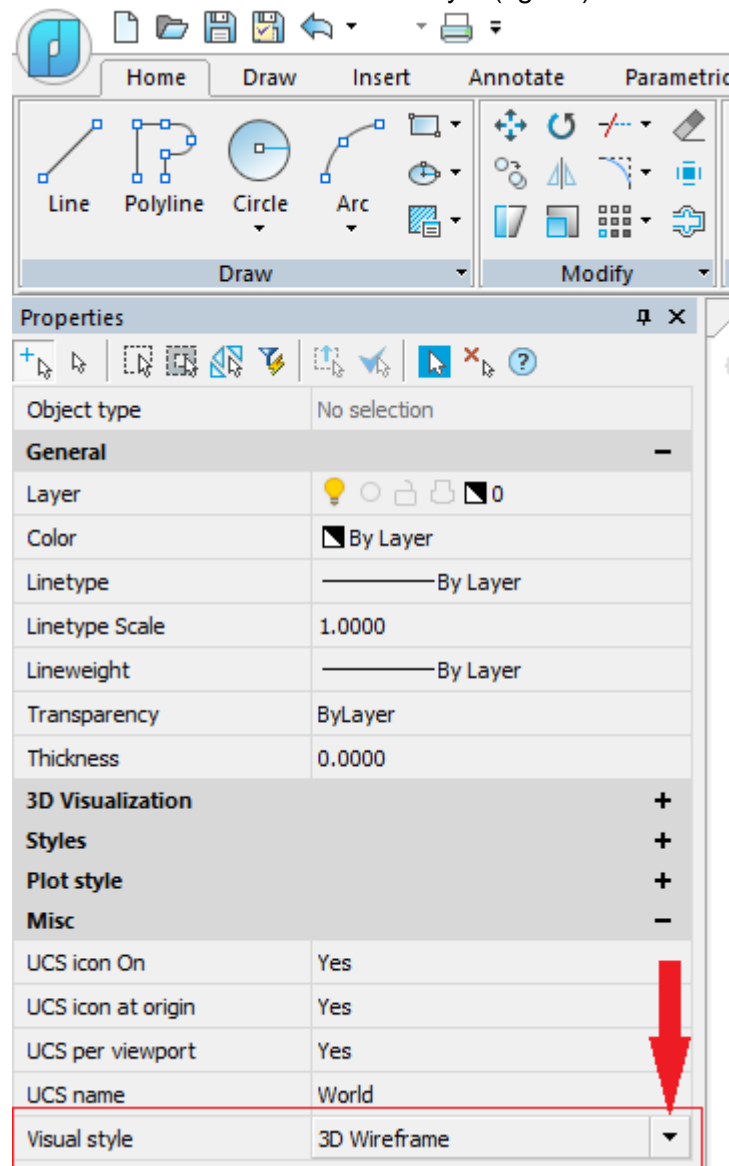

Fig.14. Change the visual style
1. In the Properties bar set the 3D Wireframe visual style (fig. 14):